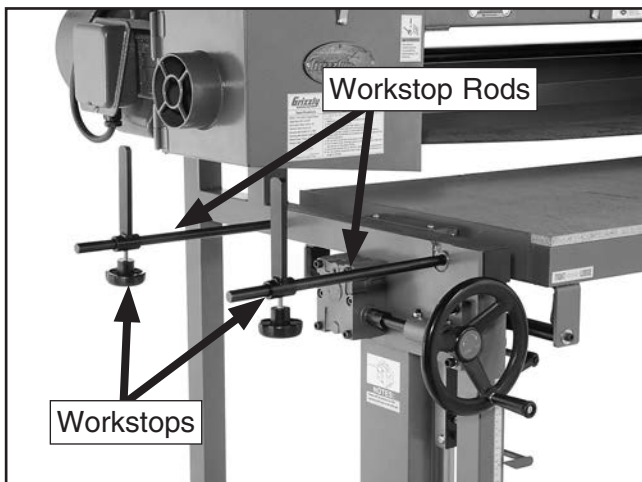

Figure 40. Auxiliary workstops.
- Loosen the workstop knobs, rotate the workstops so the knob is facing down, then position the workstops in the location needed to properly support the workpiece (**Figure 40**).